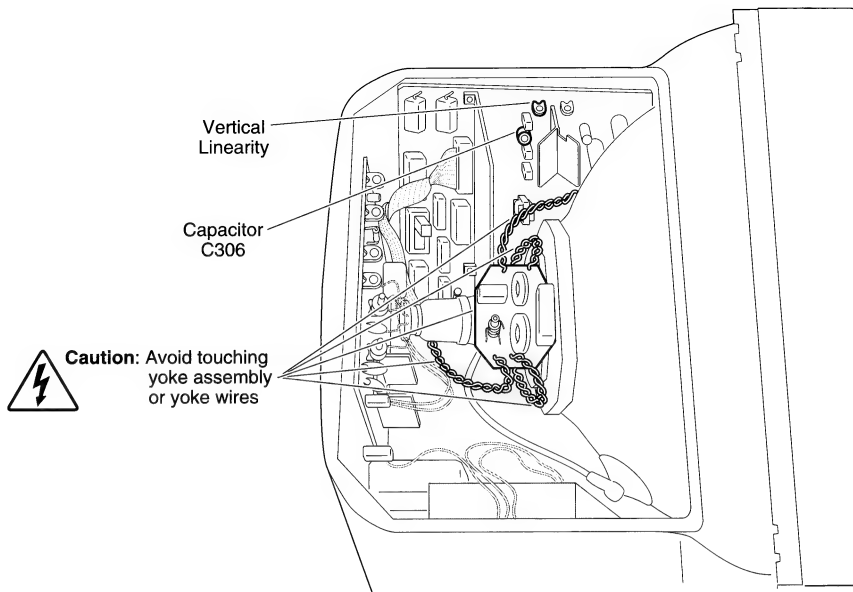

Figure 6 Vertical Linearity and Capacitor Adjustments
3. FIGURE 6. Adjust the small orange capacitor at C306 on the main deflection board until the top two rows of boxes on the monitor screen are the same size.
4. FIGURE 6. Adjust the Vertical Linearity control until the top and bottom rows of boxes are the same size.